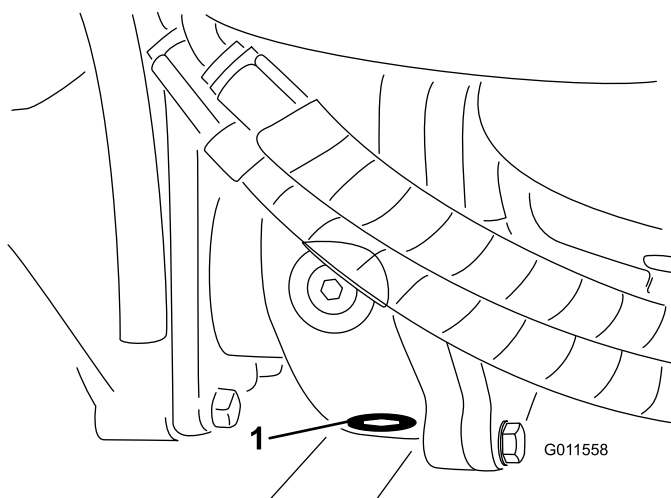

Figure 97
5. Clean the area around the drain plug at the bottom of the gearbox (Figure 97).